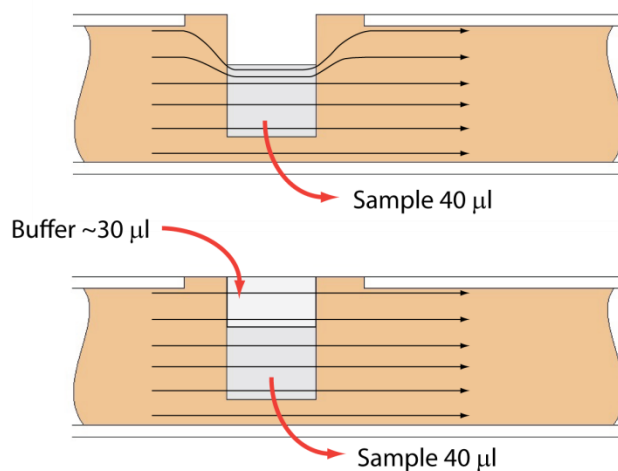

Figure 11.1. An illustration of the electrophoretic effect on a DNA sample when a sample well is not completely filled.
Proper sample loading is critical for best performance of Pippin Prep cassettes. For maximum reproducibility and accuracy, the sample should travel through the central section of the gel column, and should be bounded on all four sides by uniformly conductive media – either gel or electrophoresis buffer. The goal of the loading procedure is to produce this geometry in the sample loading well, as illustrated in the bottom section of **Figure 11.1**. Properly prepared samples will be 40 μl in total volume consisting of 30 μl of DNA mixed with 10 μl of Pippin Prep loading solution. The loading solution contains concentrated Ficoll as a densifying agent (see following chapter on Sample Preparation for details), and therefore the samples will sink and form a high density layer beneath the electrophoresis buffer when pipetted slowly into the sample wells. If there is insufficient conductive buffer over the sample, the electrophoretic forces lines will curve upward as the sample exits the well (see **Figure 11.1**, upper section), and the sample will be drawn to the top of the cassette where it can travel out of the gel into the gap between the gel column and the plastic top of the channel. Sample moving in this gap will travel at a different rate than the sample inside the gel column, and will lead to elution of undesired size fractions in the eluted material. In such cases, the contaminating DNA will usually (but not always) be higher in molecular weight than the selected DNA.
2. **Remove 40 μ l of buffer from the first sample well, and load 40 μ l of sample (or marker) into that well.** Take care not to pierce the agarose with the pipette tip. There is gel on all sides and bottom of the sample well. In addition, there is an agarose “chimney” surrounding the top of the sample well that protrudes up through the cassette cover (see **Figure 11.1**, previous page). When removing buffer, some users find it useful to immerse the pipette tip just below the surface of the buffer and follow the liquid level down with the tip as the buffer is removed. When buffer removal is completed, there will be ~30 μ l of buffer left in the well. When adding sample, place tip of pipette just below the surface of the buffer, and follow the liquid level up with the tip as the well fills. Don't be concerned if the sample well slightly overfills. The density of the sample will allow it to sink before it can flow out of the well.